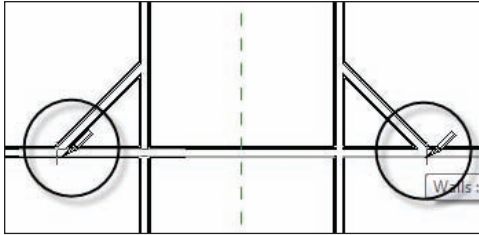

FIGURE 2.46 Split the wall at two points. If you've selected Delete Inner Segment, the result is to eliminate the wall between the two points.
- Pick the second point along the same wall, only on the opposite side (see Figure 2.46).